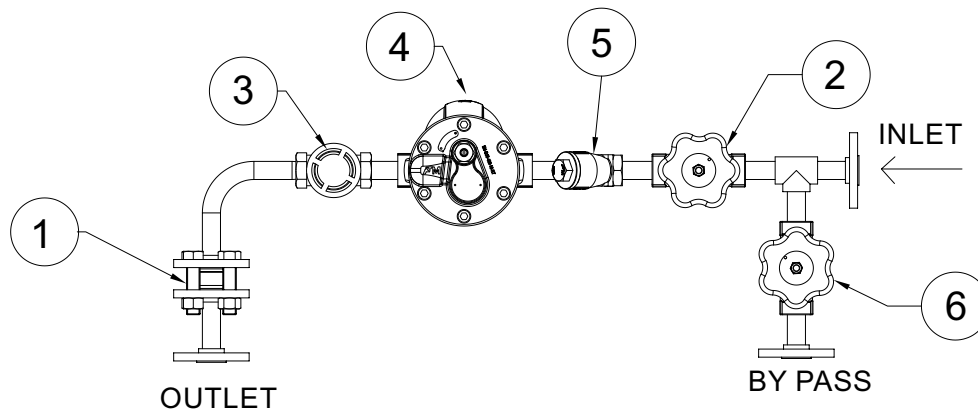

Figure 4: Two Orifice Float trap module
6.1 Flushing of Lines (Refer to Figure 4)
1. Close the stop valve (2) and open the bypass stop valve (6).
3. Now slowly close the bypass stop valve (6) and open the stop valve (2).
6.2 Commissioning : (Refer to Figure 4)
7.4. Maintaining main valve assembly: [Refer Figure 4]